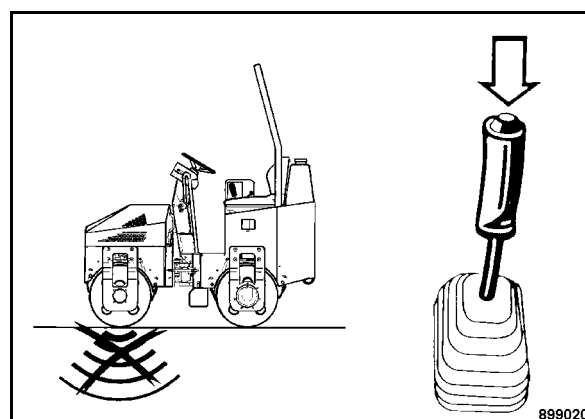

Fig. 42
- Actuate the vibration push button (Fig. 42) again.